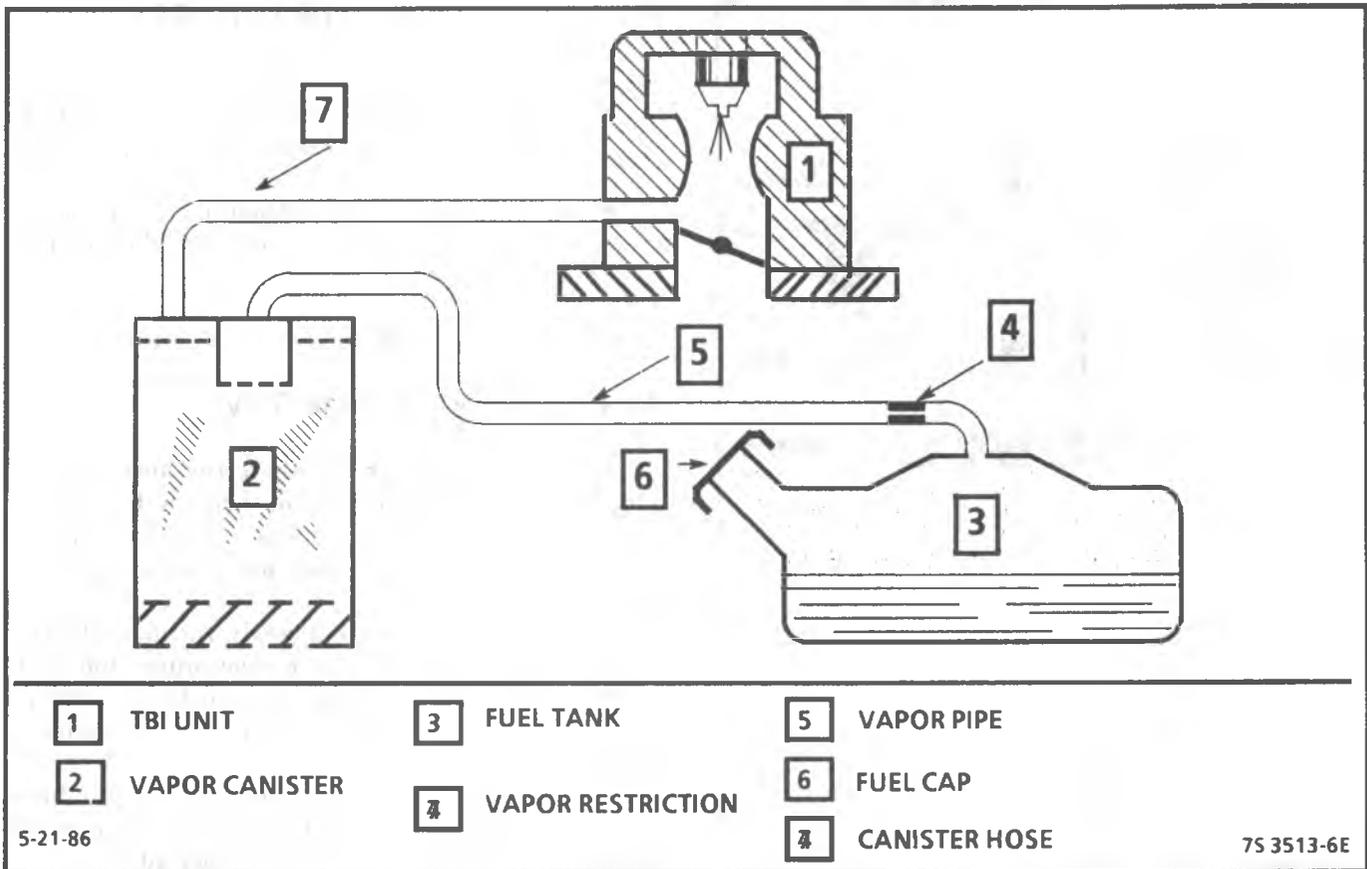

Figure 5-5 Evaporative Emissions Control System Schematic - 2.5L & 4.3L (ST)
Evaporative System 2.5L, 2.8L & 4.3L (ST) (Figure 5-5)